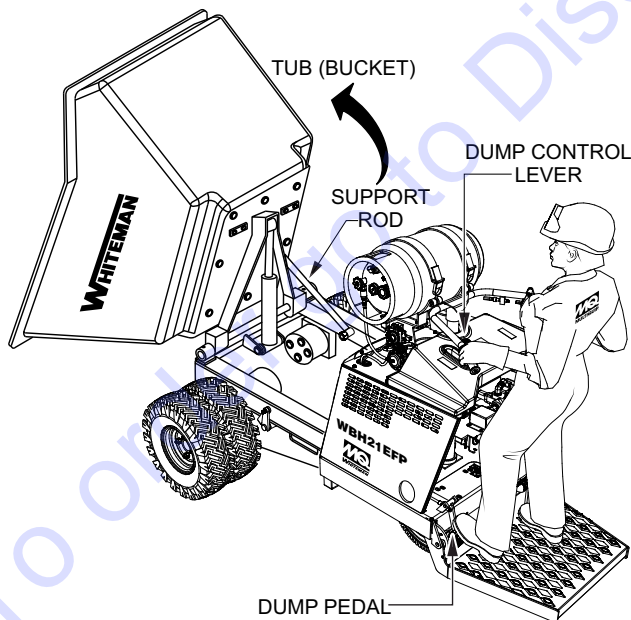

Figure 41. Tub Dump Position Hydraulic Oil Access
3. To gain access to the hydraulic oil tank filler hole, the tub (Figure 41) must be placed in the dump position (vertical).